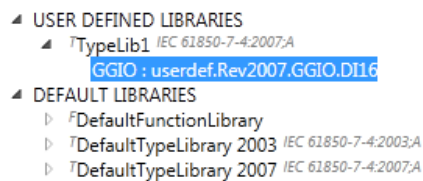

Figure 4-18 Cloned logical nodes in a user-defined library
- In the user-defined library, click the cloned logical node (in the example in Figure 4-18: “GGIO: userdef.Rev2007.GGIO.DI16”), cloned data object or cloned function.